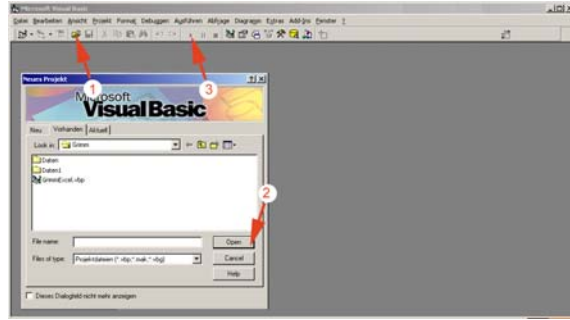

Fig.7: Parameter-setup of the OPC
7. **Data conversion** to XLS format (step 1 in fig.7):
- Open VisualBasic and click the LOAD-FILE function and activate the tab for existing files (step 1 in fig.7);
- Load the **GrimmExcel.VBP** application (step 2 in fig.7);
- Click the PLAY function to launch applet (step 3 in fig.7);